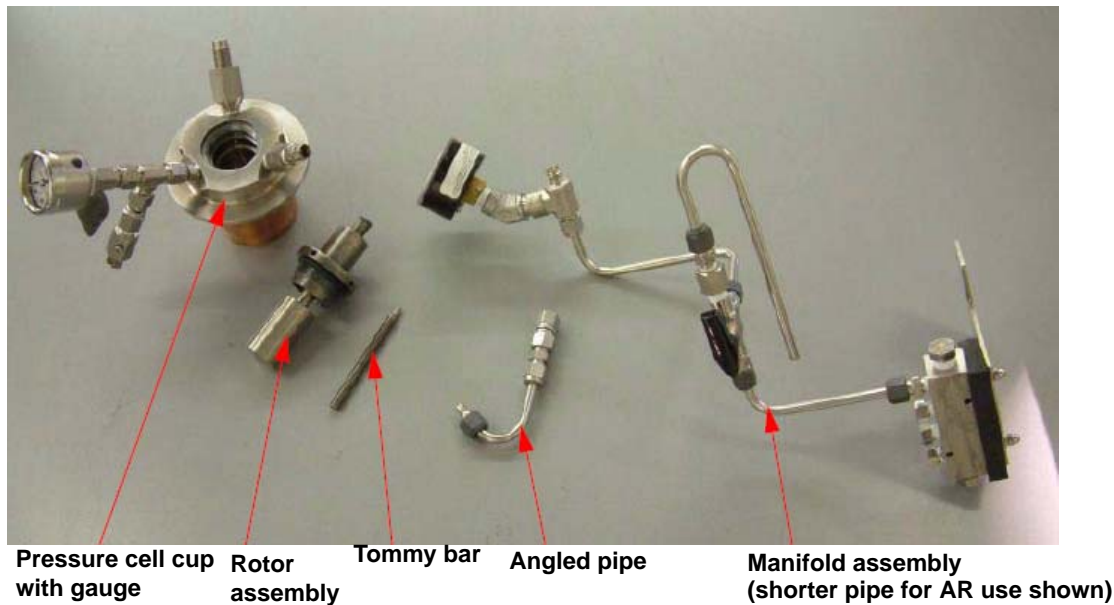

Figure 10 Entire Pressure Cell configuration disassembled.
Step 3 (for AR Series use only): To use the Pressure Cell with AR Series Rheometers, replace the long pipe on the manifold assembly (identified below) with the shorter pipe in the kit. Refer to Figure 10 below to see the manifold assembled for AR use.